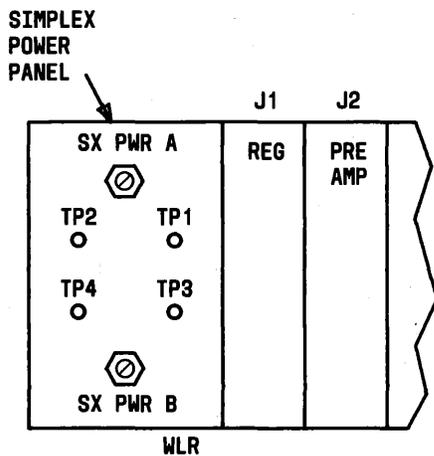

Fig. 3—J70171AA Repeater Shelf (Partial View)
- (2) Set SX PWR A and B ADJ controls Counterclockwise (CCW) at simplex power panel. See Fig. 3.